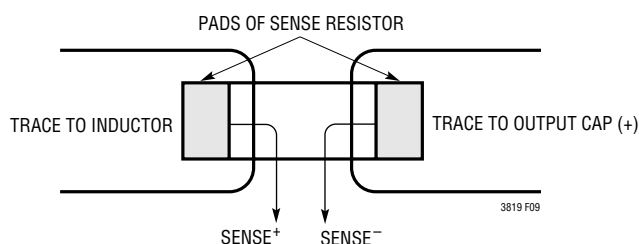

Figure 8. Proper Current Sense Connections
3) Are the $SENSE^-$ and $SENSE^+$ leads routed together with minimum PC trace spacing? The filter capacitors between $SENSE^+$ and $SENSE^-$ pin pairs should be as close as possible to the LTC3819. Ensure accurate current sensing with Kelvin connections at the current sense resistor. See Figure 8.